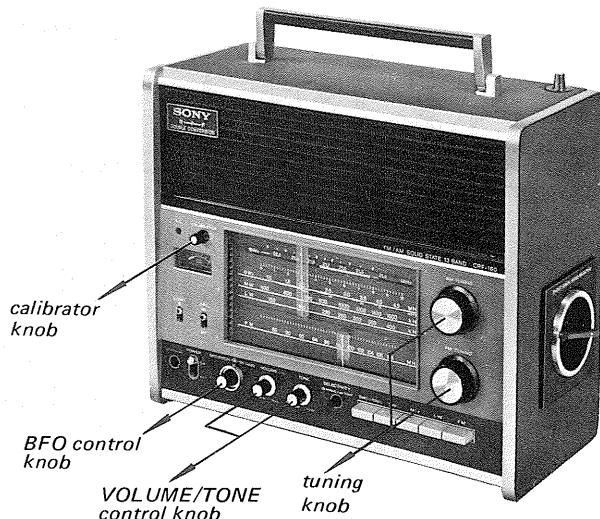

Fig. 2-1
- Pull off the six knobs shown in Fig. 2-1.